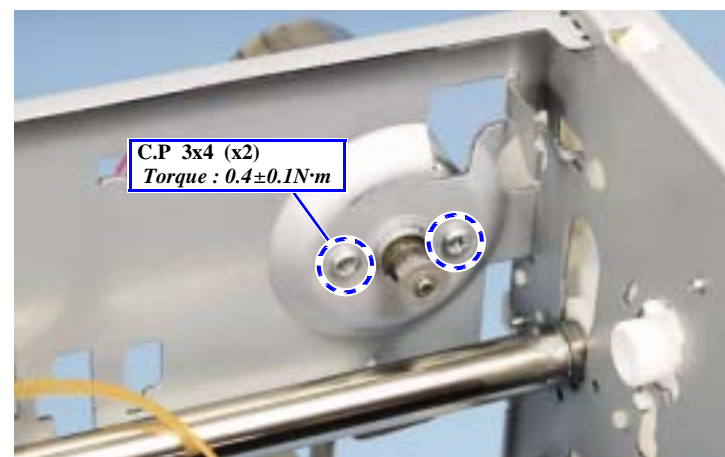

Figure 4-68. Removing the CR Motor
6. Remove the screws (x2), and remove the CR Motor. (Fig. 4-68)